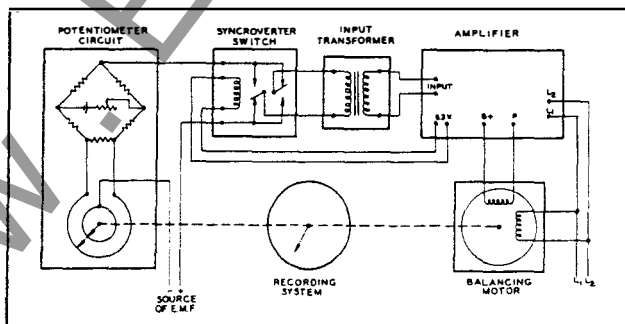

FIGURE 2. SIMPLIFIED SCHEMATIC WIRING DIAGRAM OF DYNAMASTER D-C POTENTIOMETER
**1. The Dynamaster D-C Potentiometer.** (See Figure 2) A millivoltage input from the measuring element is connected in series with the potentiometer circuit and Syncroverter switch. There is a standard voltage in the potentiometer circuit which is automatically adjusted